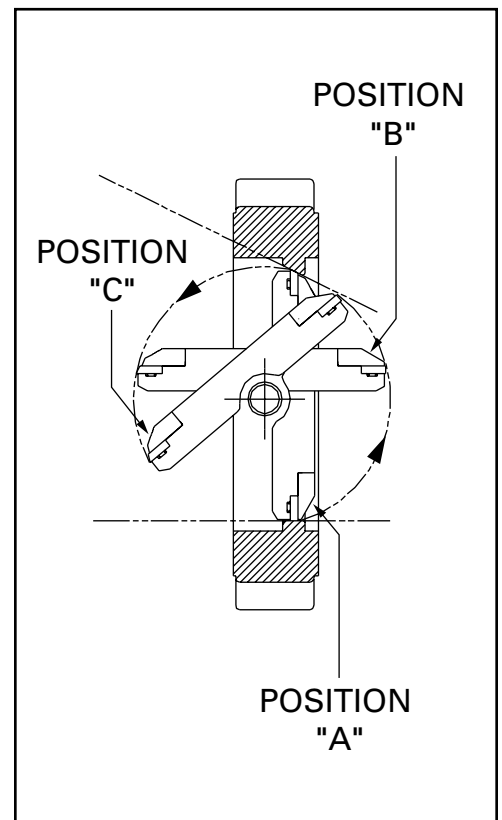

Figure 6.2C Disc Orientation
2.1	Turn disc to OPEN position. Position "B" in Assembly Figure 6.2C